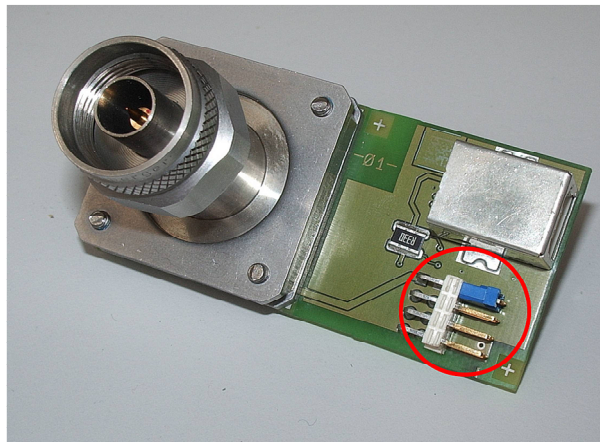

Figure 1-1: Probe box adapter, jumper setting
To correctly run the performance test, you must configure the probe box adapter by means of a jumper as shown in Figure 1-1.
- ▶ Connect the jumper to the two vertical pins closest to the USB connector (see Figure 1-1).